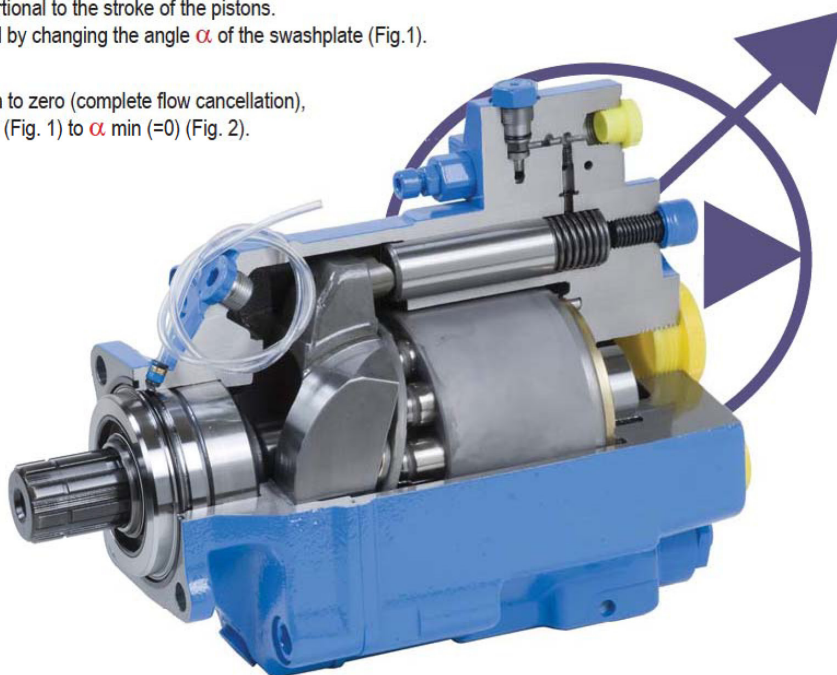

Figure 1 - Maximum displacement
- ▶ The displacement of the pump is proportional to the stroke of the pistons. Displacement – and thus flow – is varied by changing the angle α of the swashplate (Fig.1).
- ▶ To change displacement from maximum to zero (complete flow cancellation), the swashplate angle goes from α max (Fig. 1) to α min (=0) (Fig. 2).